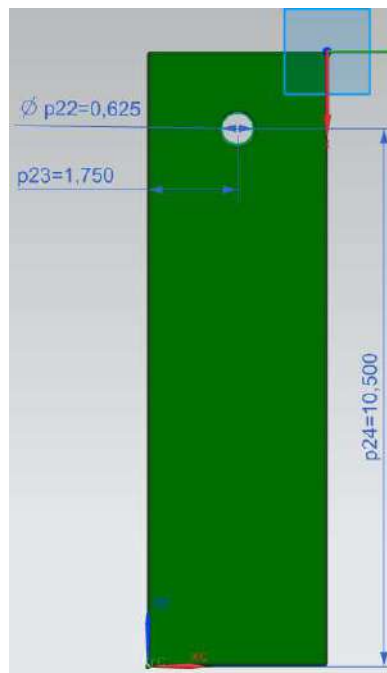
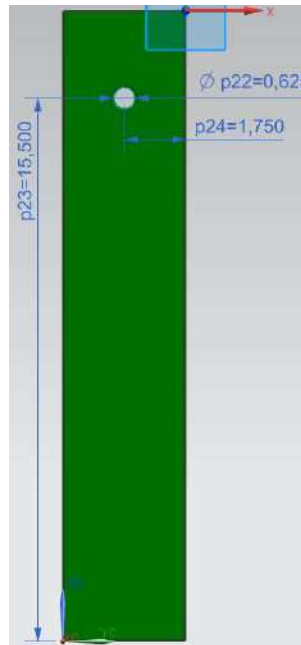

Figure 16. Part 9(i) and (ii) Hole Location
Figure 17. Part 10 Hole Location
7. **Rocker Arm and Treadle Mounts:** The next step is to prepare part 9(i), 9(ii) and 10. These parts need a single 5/8" diameter hole drilled through the center of each support. The location of this hole is shown in figure 16 for part 9(i) and 9(ii). Part 10's hole location is shown in figure 17.